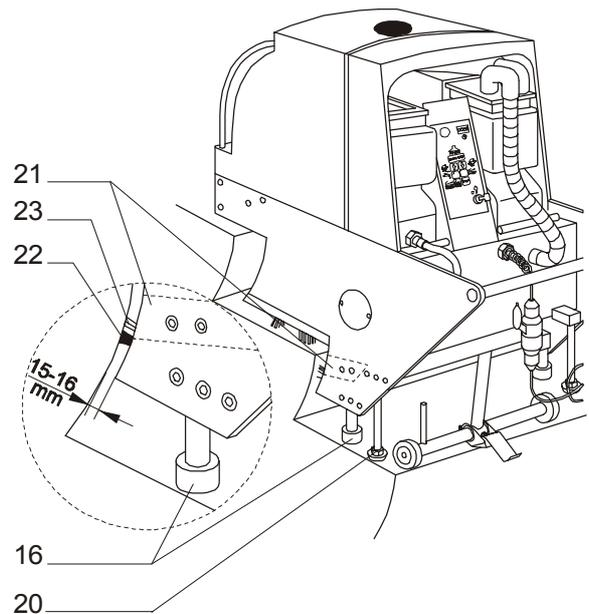

Fig. 6: Adjusting seal strip
- Check the position of the suction basin (21). See Fig. 6: the seal strip must extend 15-16 mm above the rim of the side wall.